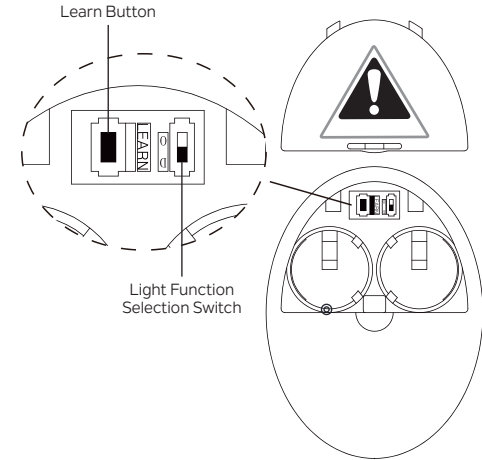

Fig. 26
## LIGHT FUNCTION SELECTION SWITCH (Fig. 26)
## PAIRING THE TRANSMITTER TO THE FAN (Fig. 26)
**Step 2.** After installing transmitter batteries, turn on AC power to the fan at the circuit breaker or fuse box, and within 30 seconds, press and hold the LEARN button on the back of the transmitter (**Fig. 26**) for 3 seconds. The fan will turn on at medium speed and the light kit (if installed) will turn on. This confirms that the pairing process is complete.